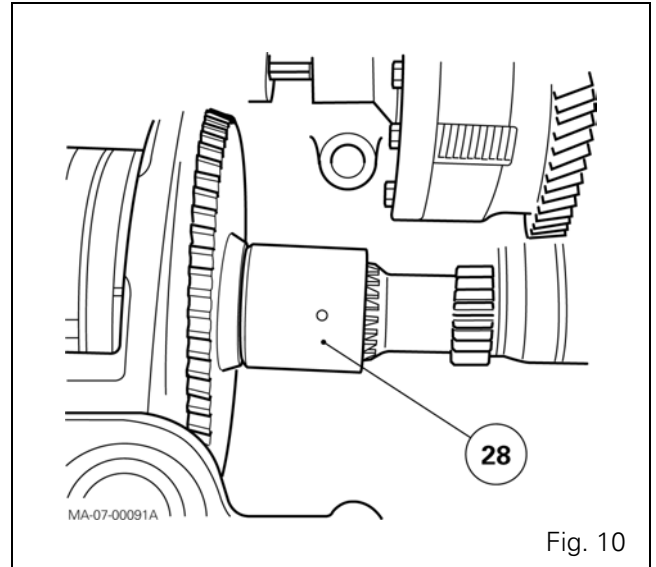

Fig. 10
- 39.** Refit the pinion (31).
40. Refit the circlip (30).
41. Refit the fork, the sleeve assembly (28) (the long offset between the pin and the pinion positioned as shown in Fig. 10), the link shaft and the coupler. Replace the pins. Adjust the fork (see section 5).